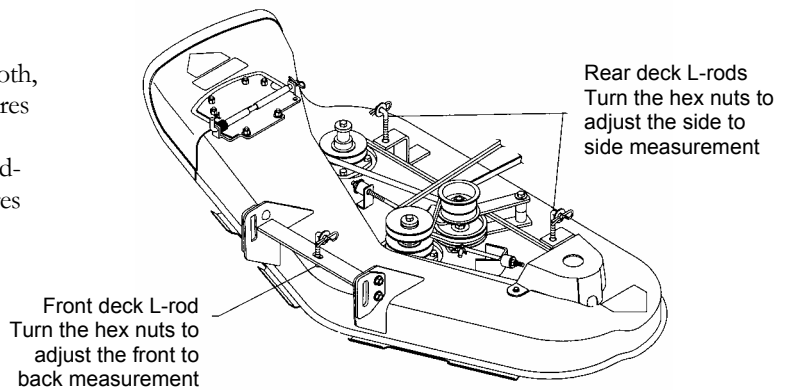

Figure 22. Leveling the deck using the 42-inch model
5. If the measurements differ, turn the nut on one or both of the rear L-rods until both measurements are equal (Figure 22).